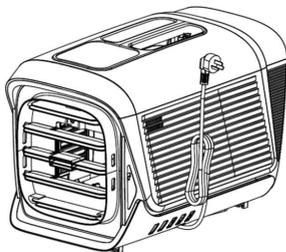

Fig11
4.1. Wind the power cord (as shown in the figure below: Fig11);